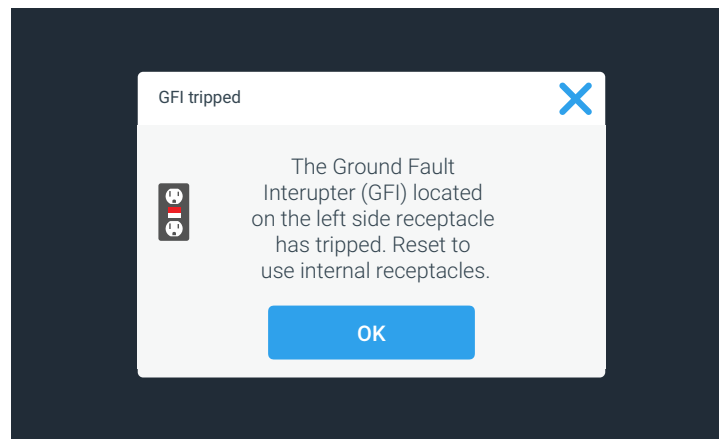

Figure 59 “GFI tripped” Alert Details Screen
4. Tap any entry in the alarm list to view additional details, as in the GFI Tripped (US versions only) example in Figure 59 below.